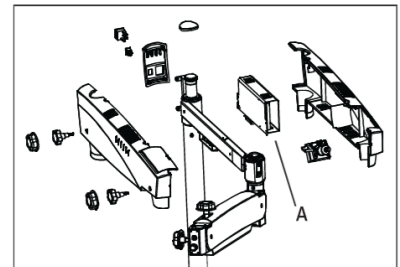

Fig. 36
Switch off the microscope. Open the swivel arm covers and replace the illumination assembly (A) with new assembly. Secure back the arm covers. Refer Fig. 36.